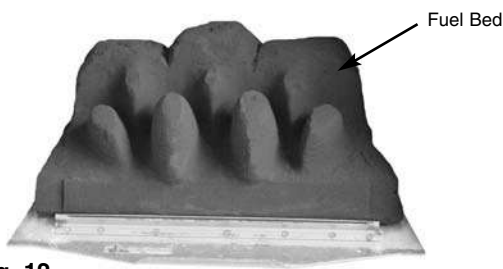

Fig. 12
1. Place the main fuel bed on to the middle section of the metal burner tray. It is important that the front edge of the fuel bed is located behind the burner strip (Fig. 12).